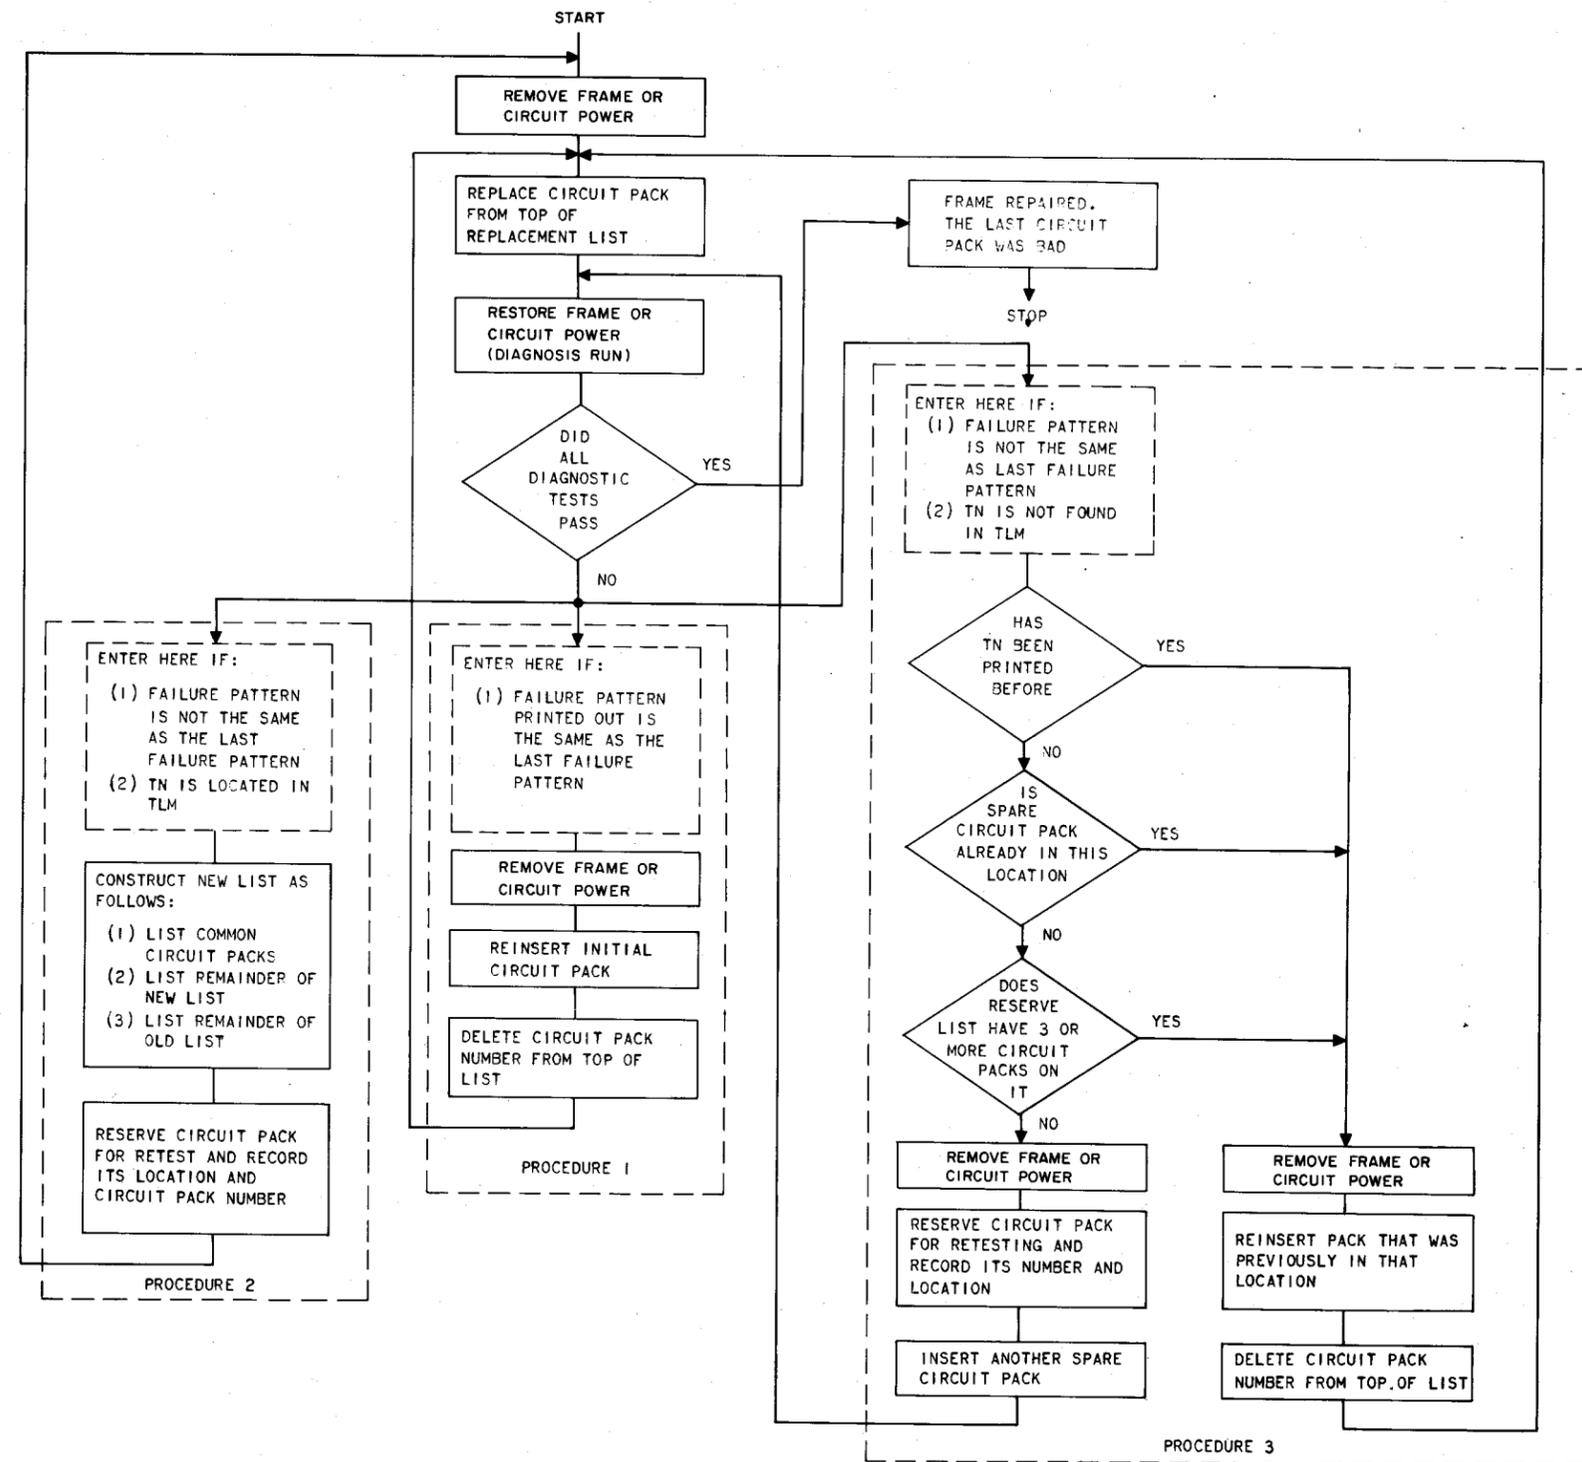

Fig. 11—Procedure for Replacing Faulty Circuit Packs
**7.14** To locate a faulty circuit pack by this method, use the flowchart procedure given in Fig. 11.